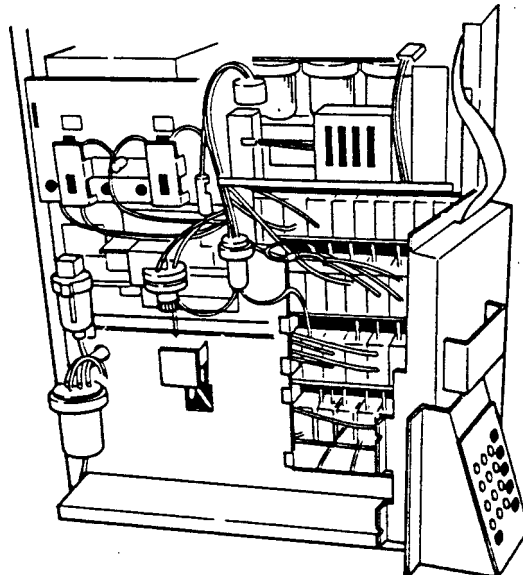

Figure 6-0-3 Opening the operation Panel
- B. Open the operation panel as shown in Figure 6-0-3.